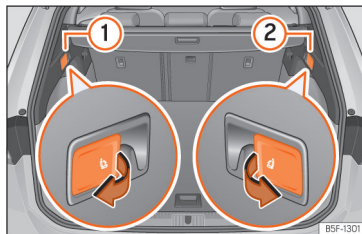

Fig. 100 In the luggage compartment: levers to unlock the rear backrest.
- Pull the remote release lever of the left »» Fig. 100 ① or right ② parts of the backrest in the direction of the arrow. The released part of the rear seat backrest is folded automatically down and forwards.